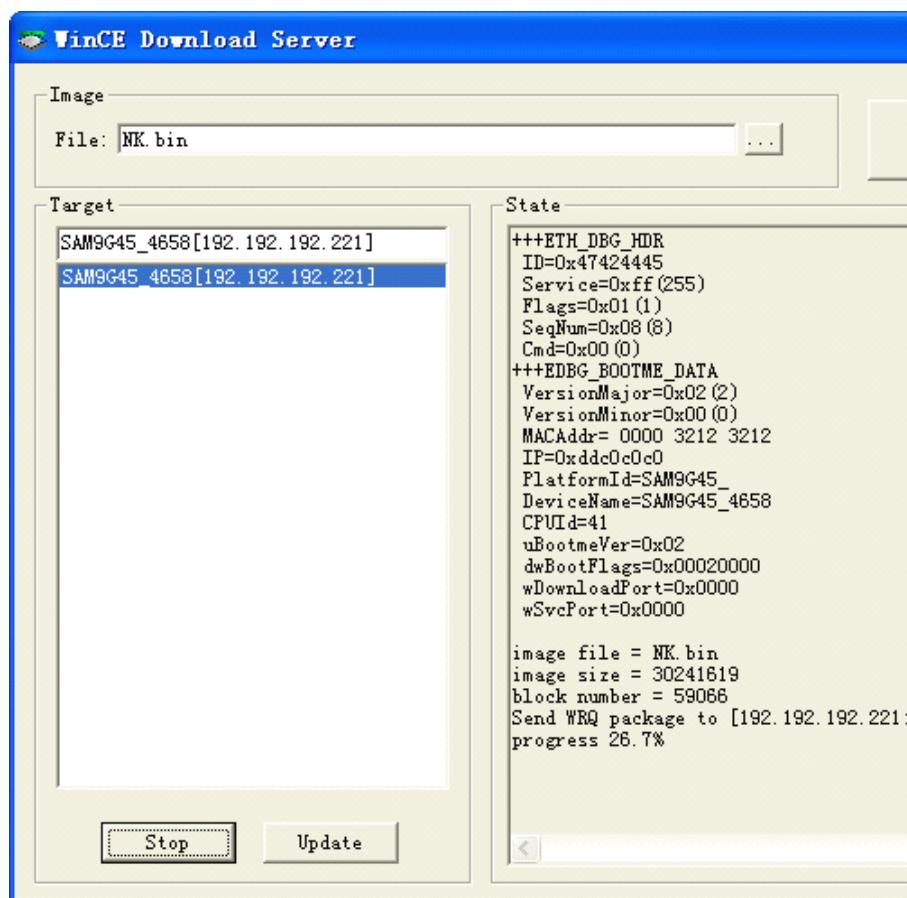

Figure 12.3.5
6. When you see the following information in DNW Sent BOOTME to 255.255.255 As shown in Figure 12.3.4, press Download button in CEDownload.exe software, EBOOT of SBC6045 will start to download NK.bin file to SDRAM via net cable, after the downloading is finished, it will first convert NK.bin file into NK.nb0 file, then burn it into NAND flash, in the end, it will boot WinCE system. Figure 12.3.5 shows the downloading progress appearing in CEDownload software .